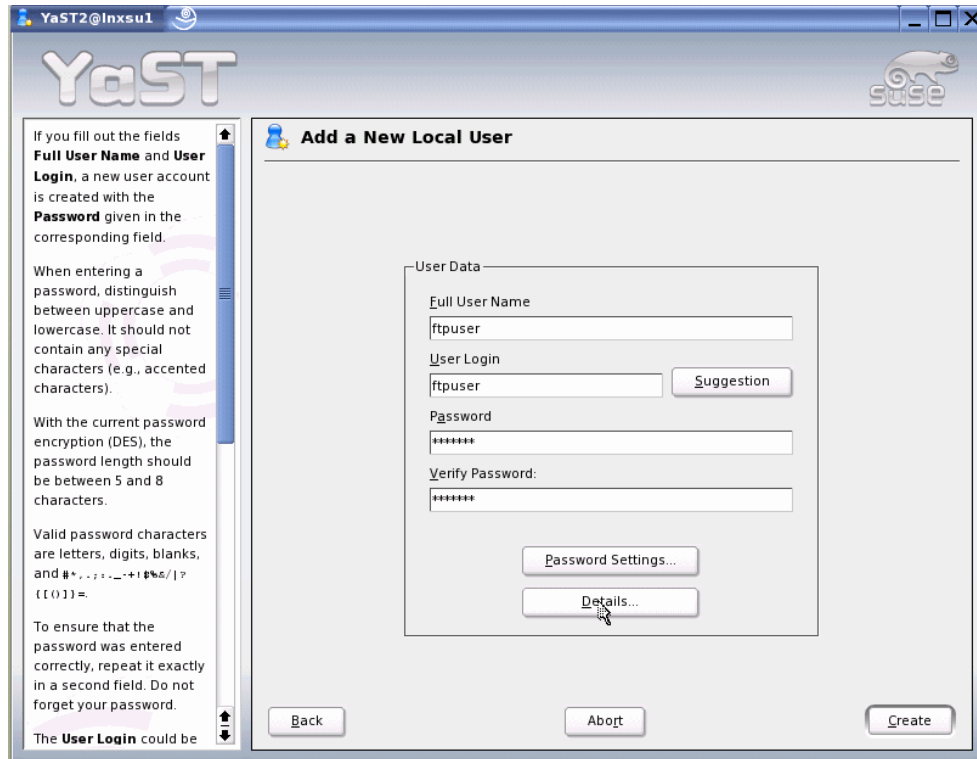

Figure 3-6 YaST add user panel
2. In the resulting panel we added a new userid ftpuser, as shown in Figure 3-6 on page 49.